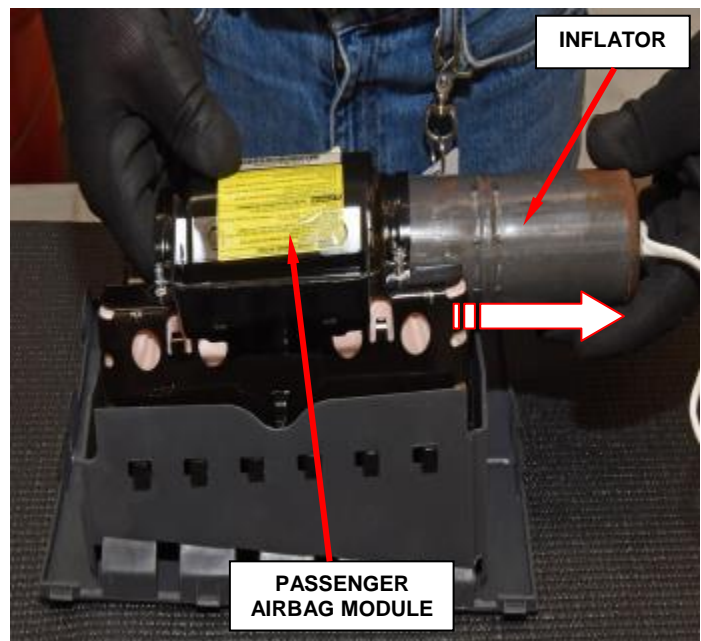

Figure 37 – Inflator Removal
- e. Slide the inflator out of the passenger airbag module (Figure 37).